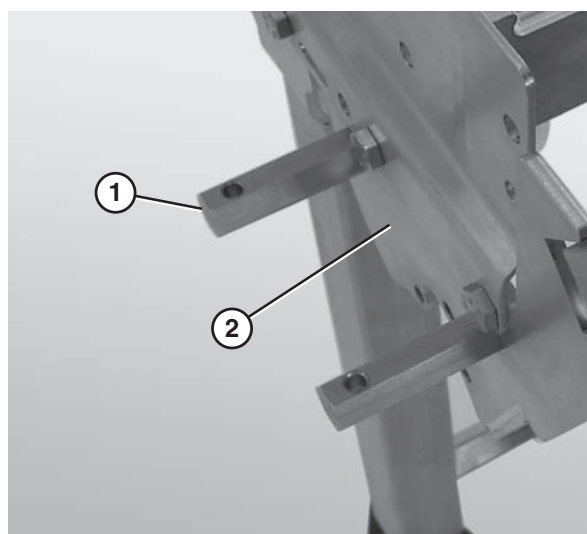

Figure 4
1. Attach the gear reducer hex mounting posts (Figure 4, item 1) to the nose bar side plate (Figure 4, item 2).